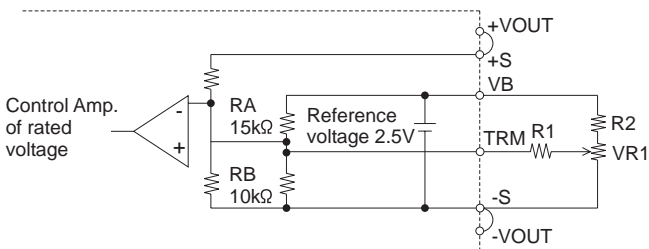

Fig.4.6 Output voltage control circuit
(1) Adjusting method by external resistor
■ By connecting the external potentiometer (VR1) and resistors (R1, R2), output voltage becomes adjustable, as shown in Fig.4.6, recommended external parts are shown in Table 4.3.